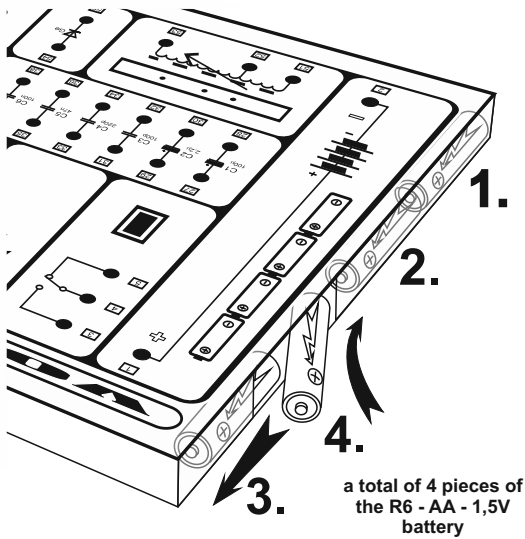

fig. 1 Inserting the batteries
- **Put 4 AA batteries (R6-AA-1.5V) in the right direction** to the housing on the side of the working panel according to Fig. 1
is a list of connections, to be carried out by electric wire between the sockets on the work panel so that model would work according to instructions. In our example, therefore, take one wire no.1 and connect one of the stripped ends to the socket no.1 on the work panel using rubber plug (shown in Fig. 1) and attach the other end in the same way into the socket no.4. Next, attach the wire no.3 to sockets 3 and 19, then wire no.2 to sockets 20 and 45 and finally wire no.3 to sockets 46 and 2. When connecting, follow lines of "Wiring guide" top to bottom. Great is sliding for example a piece of paper and covering wiring still not done, so you don't forget anything.